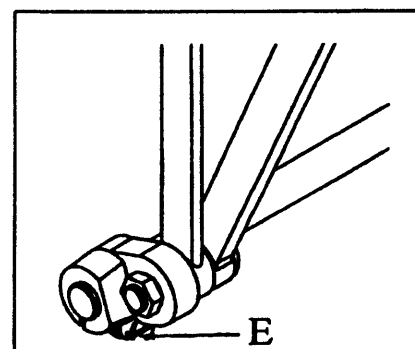

Fig.20
17. Relative position of the feed dog to needle plate (Fig. 20) :